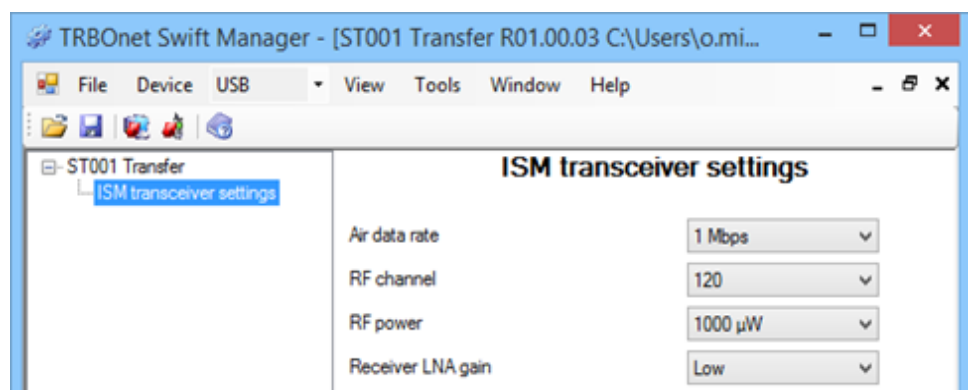

Figure 9: Configuring the NRF (wireless) connection settings on the option board
- d. In the left pane, click **ISM transceiver settings** and update the NRF connection settings with values specified in the configuration of the option board (see *Figure 9, page 11*).